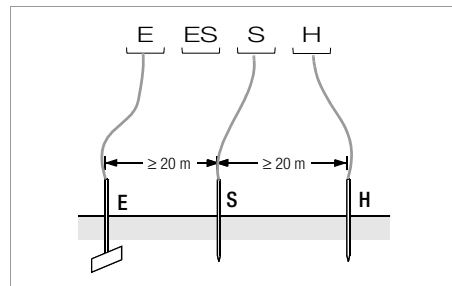

Figure 2 Measuring Earthing Resistance with a 3-Wire Test Setup
- ⇒ Position the probe at least 20 meters, and the auxiliary earth electrode at least 40 meters from the earth electrode (see also Figure 2 on page 14).